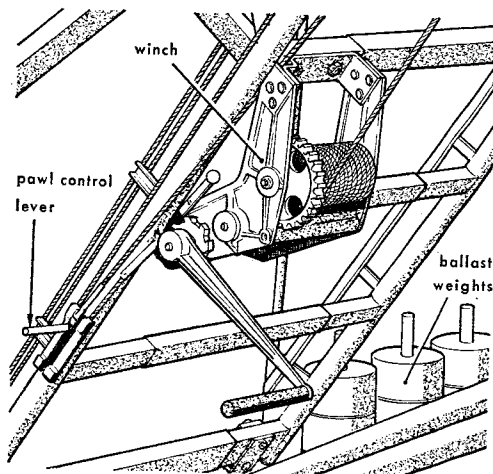

Fig 5 Ladder winch
14. **Ladder winch.** The ladder winch (Fig 5) is hand-operated and it is fixed to the under surface of the lower ladder section. A steel cable attached to the winch drum is arranged to pass over a pulley on the lower ladder and is then attached near the base of the sliding ladder section. Winding the cable onto the drum of the winch causes the moveable section of the ladder to slide over the fixed ladder, thus increasing the effective overall length. Two spring-loaded 'ladder pawls' attached to the fixed ladder section engage behind a rung of the sliding section to support the upper ladder, removing the load from the winch cable. A pawl control lever is used to retract the ladder pawls when the ladder is to be retracted. A ratchet mechanism prevents accidental unwinding of the winch drum, and mechanical stops prevent the ladder extending beyond safe limits.